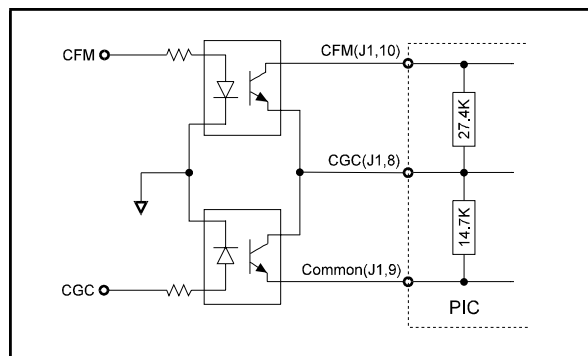

Figure 4-1: CFM and CGC Remote Control
- For remote selection, the scheme in Figure 4-1 should be used.